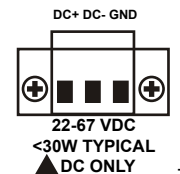

Figure 2.5: Low DC Power Supply Inlet Connector
**Low DC:** Terminal Power Strip with Surge Withstand Protect Circuitry (SWC), and inlet supply with a range of 22 Vdc to 67 Vdc ONLY (see Figure 2.5).